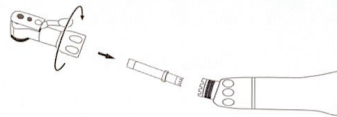

Fig.5
- 2) Pull out the Drive Gear Assembly from the head.(Fig.5)